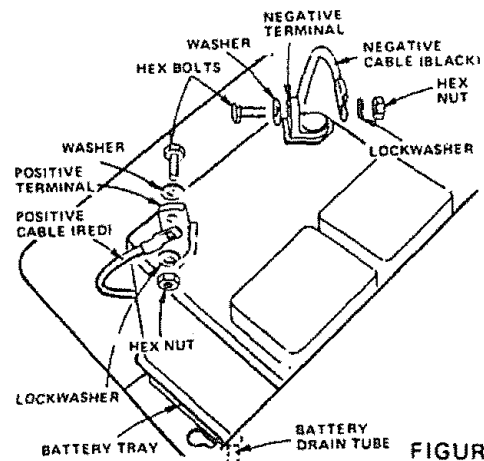

FIGURE 18
- a. Connect each end of the RED cable to the POSITIVE (+) terminals of each battery (taking care not to short against chassis). (Fig. 18)